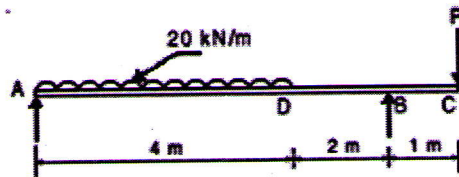

Fig 3
- 4 a) Explain the following: (5)
- b) Determine the load P such that reactions at supports A and B are equal in the beam shown in fig3. Draw the shear force and bending moment diagrams and mark the values at salient points. (10)